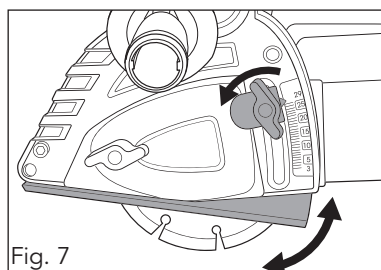

Fig. 7
1. Loosen the depth of adjustment knob (5) (Fig. 7).
2. Adjust the guide shoe (15) to desired cutting depth according to the cutting-depth scale. The wall chaser can be set to any desired depth of cut between 5mm and 29mm.